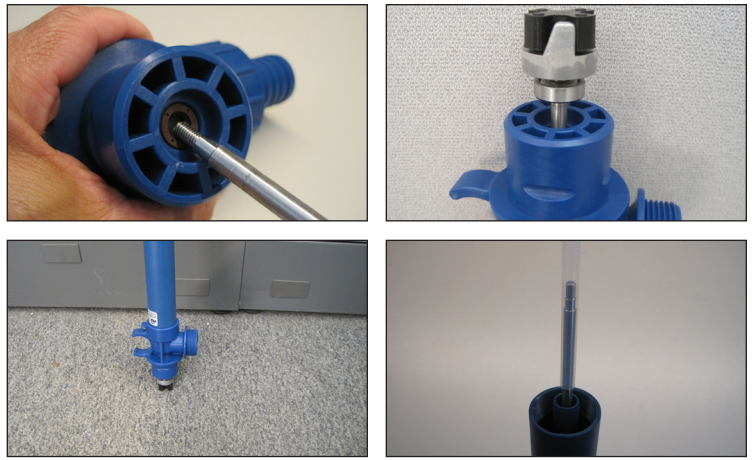

Figure 14 A, B, C, D
5. **Shaft Installation** - Slide the shaft down through the seal until the bearing engages the bearing bore in the head. Set the half coupling on the floor and push the pump down using the intake tube (item 15) for leverage. Make sure the bearing (item 4) is flush with the top of the head (item 7). While the pump is in this upright position slide the shaft sleeve (item 14) between the shaft (item 5) and inner tube (item 12). The shaft sleeve is self positioning so just push it in all the way until it drops down completely into the inner tube. See figures 14 A, B, C, D.